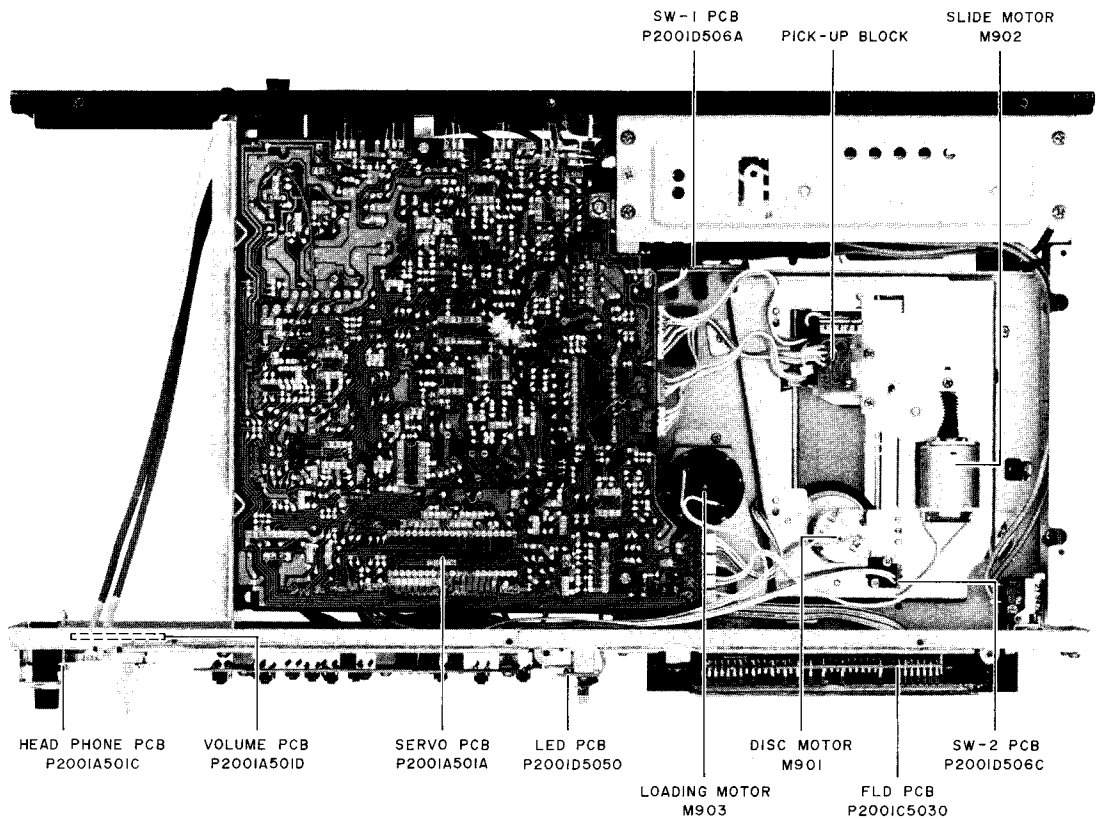

Fig. 4-2 Bottom View
- 3) Remove the slide gear fixed at the button. Refer to Fig. 4-2.
- 4) Move the disk clamber lever aside with a finger and remove the three disk motor fixing screws, (A), (B) and (C).
- 5) When the four screws (D), (E), (F) and (G), for the metal fittings of the pick-up guide rail are removed, the pick-up block guided rail can be removed.